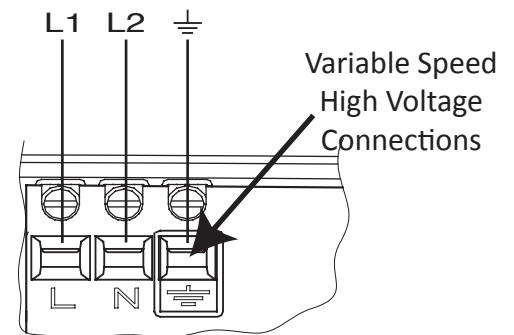

Figure 4: Variable Speed Pump High Voltage Connections
5. Complete high voltage wiring to variable speed pump. Run high voltage wiring from the “L” side of the compressor contactor (see CAUTION below) to the pump terminals (refer to figure 4). Wiring must meet all applicable code requirements, including requirements for wire protection, such as conduit. Wire size must be at least 14 AWG copper conductor.